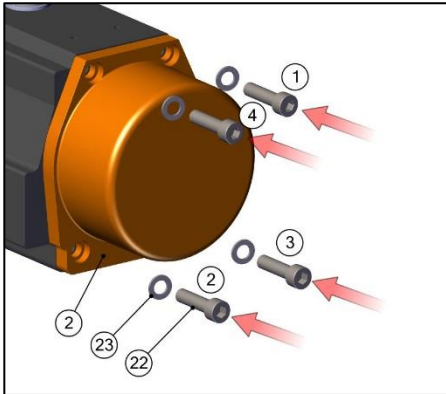

Fig. No. 34
- e) Fit the end caps. Insert all the end cap bolts (22) and hand tighten. Complete tightening by following the sequence indicated in Fig. No. 34